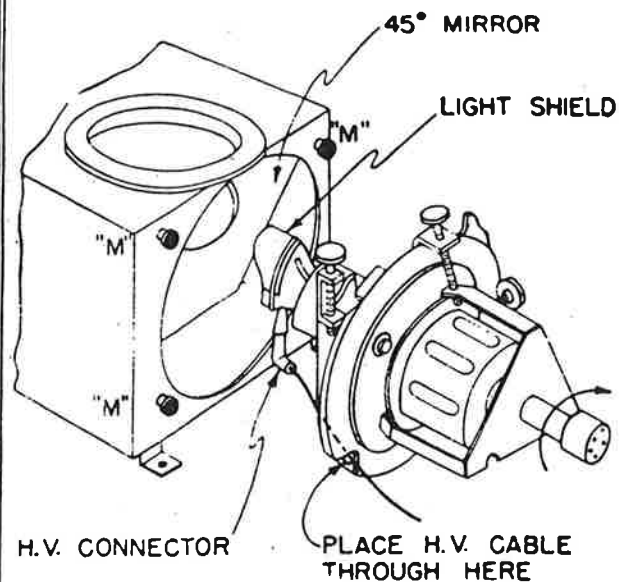

Figure 2-4—Optical Box Assembly
- 9) (See figure 2-4). Insert the high-voltage connector in the anode cup on the tube. Push the spring contact on the cable into the cup as far as it will go, to make proper contact.